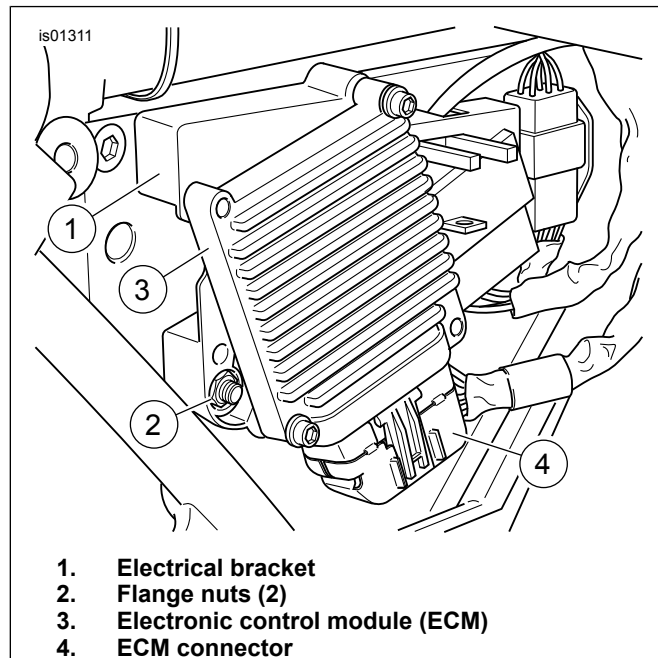

Figure 13. Electrical Bracket (2002-2007 Touring Models)
4. See Figure 13. Remove two flange nuts (2) from electrical bracket (1). Pull bracket assembly, with electronic control module (ECM) and connector attached, away from side of battery box.